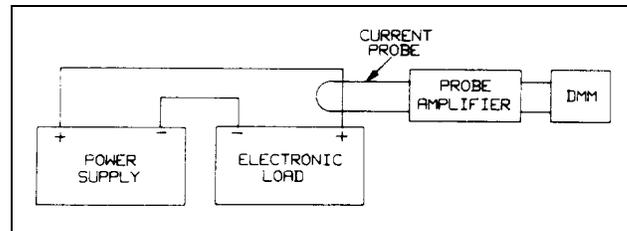

Figure 2-3. Test Setup C
- Connect the Electronic Load, power supply (Agilent 6032A or equivalent, DMM, and current probe as shown in Figure 2-3. Set power supply for 10V and greater than 10A.